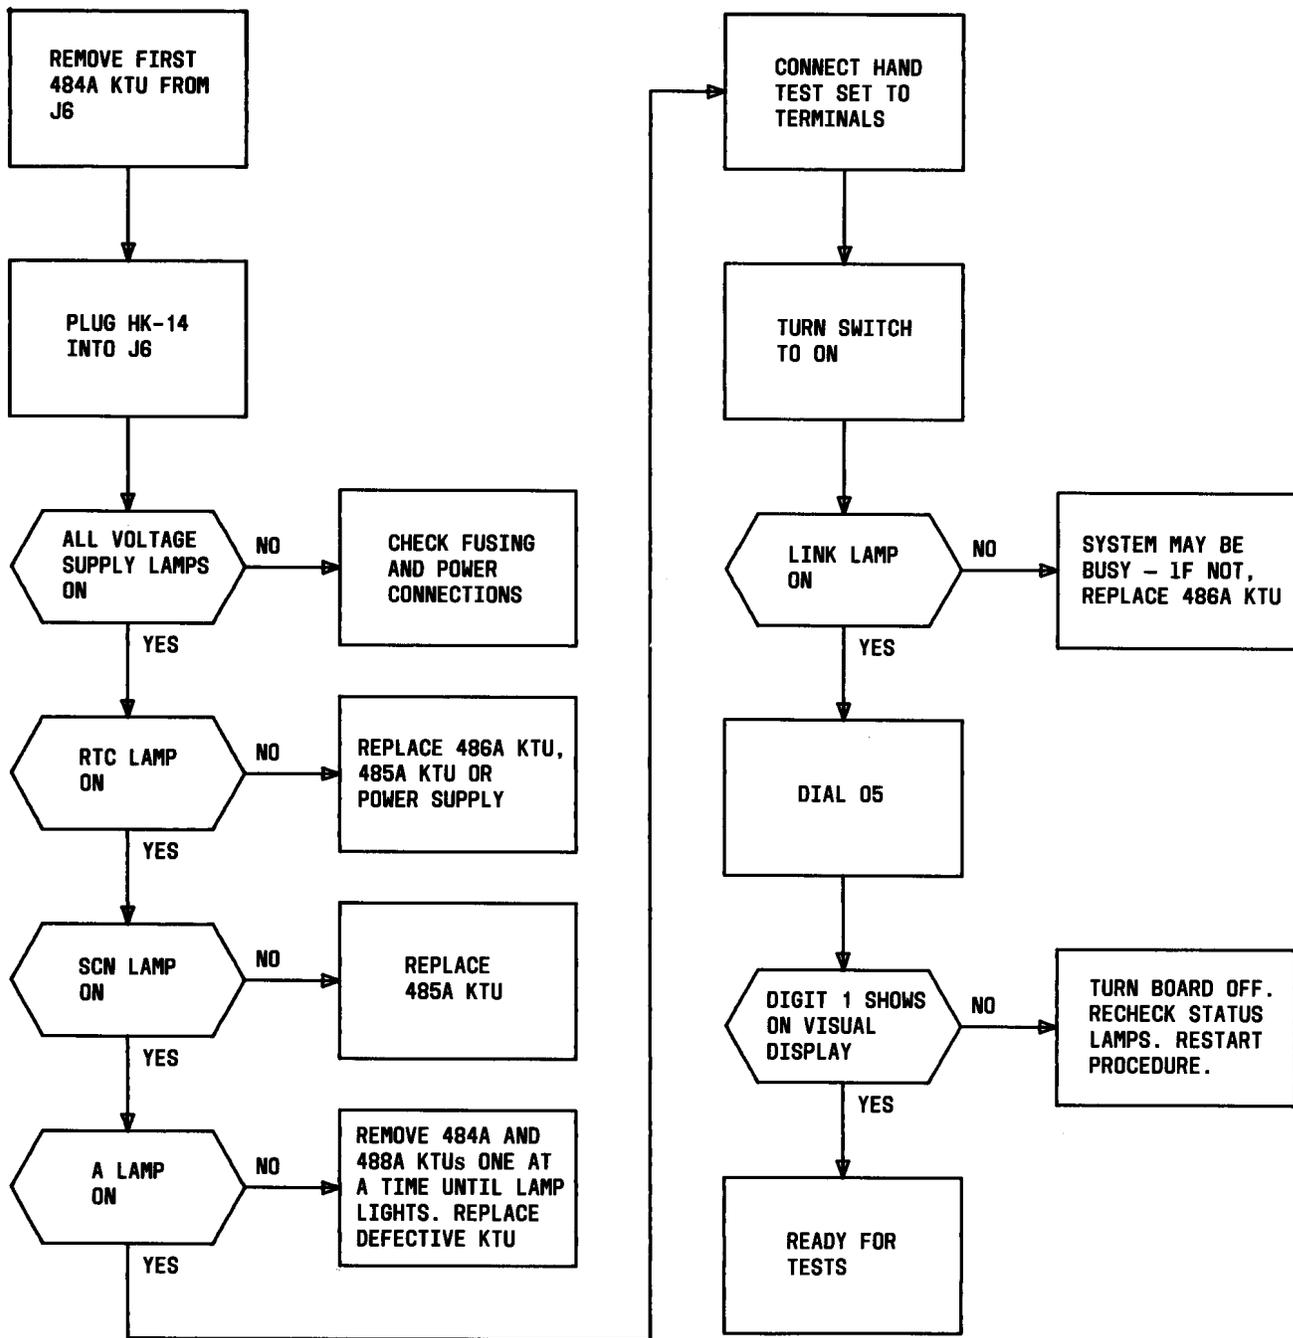

Fig. 23—HK-14 Diagnostic Circuit Pack Preparation
- Diagnostic test sequences (Fig. 23 through 34).
**6.06** To start the sequence after the switch is turned to ON, 05 must be dialed on the hand test set. The circuit pack will then test each link for each test. For instance, after 05 is dialed, the digit 1 will be displayed and link 1 tested for dial tone, then link 2 and if provided, links 3 and 4. The craftsperson must listen for dial tone as well as look at the "PASS" LED. The test will then be repeated unless the STEP switch is depressed or the circuit pack turned off. If the STEP switch is depressed, the circuit pack will make the next test of each link in sequence. The test being made is displayed visually (Fig. 12). If it is desired to make a particular test, the circuit pack must be stepped until the proper digit or letter is displayed. Refer to Table P and Fig. 23 through 34 for the circuit pack preparation sequence and the individual test sequences.